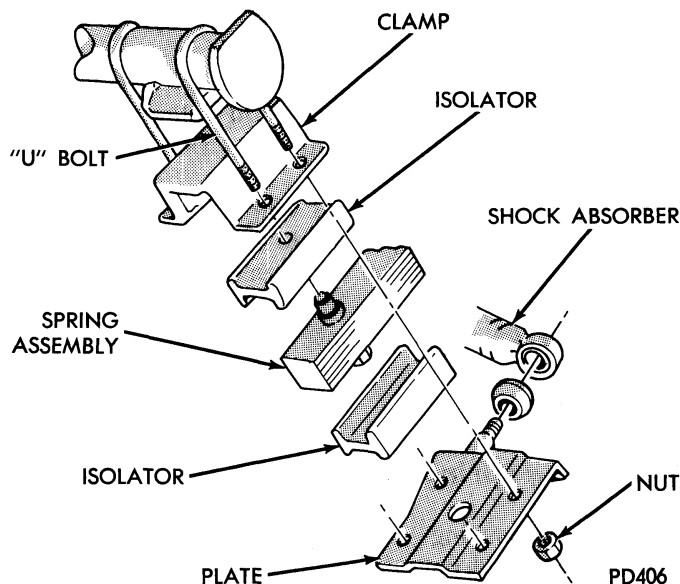

Fig. 14—Rear Spring Isolator (Carlines R,W,P,D,C,Y)
(1) Assemble shackle and bushings in rear of spring and rear spring hanger. (**Do not lubricate rubber bushings.**) Start shackle bolt nut. **Do not tighten.** On carlines B and J, position bushings into spring eye followed by lower shackle bolt and raise spring into position. Insert upper bushings into hanger and install shackle bolt. Install plate and nuts. **Do not tighten.**
(2) Assemble front spring hanger to front spring eye and install pivot bolt and nut. **Do not tighten.**
(3) Position rear spring hanger to body bracket and install bolts and tighten bolts to 30 foot-pounds.
(4) Raise the spring and start the spring hanger bolts in mounting bracket holes (light leverage such as mechanics shoulder under spring might be necessary to position spring hanger studs in mounting bracket holes). Install nuts and tighten to 30 foot-pounds.
(5) Lower axle assembly into correct position with axle centered over spring center bolt.
(6) Position the spring clamp and upper isolator over center bolt followed by bottom isolator and plate. Carlines R, W, P, D, C and Y (Fig. 14) install "U" bolts and nuts. Tighten to 40 foot-pounds (carlines V, L, B and J with 7-1/4 inch axle) and 45 foot-pounds on models having other axles.
(7) Install shock absorber on stud and tighten nut 50 foot-pounds. (Connect sway bar link if applicable).
(8) Lower vehicle to floor and with full weight of vehicle on the wheels, tighten pivot bolts and/or nuts to 125 foot-pounds. Tighten shackle nuts 30 foot-pounds on carlines V and L, and 40 foot-pounds on all other models.
(9) It is recommended that after a rear spring has been replaced, that the vehicle be driven and the front suspension heights be remeasured and corrected if necessary.